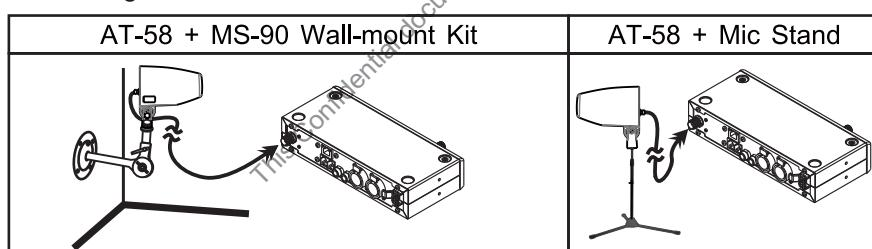

Fig. 4
(C) External Antenna Installation: Install optional MIPRO AT-58 antennas & MS-90 wall-mount kit or microphone stand with specific coaxial cable for improved performance. Ensure antennas are installed and positioned higher than the crowds and away from obstructions, as Fig. 4: